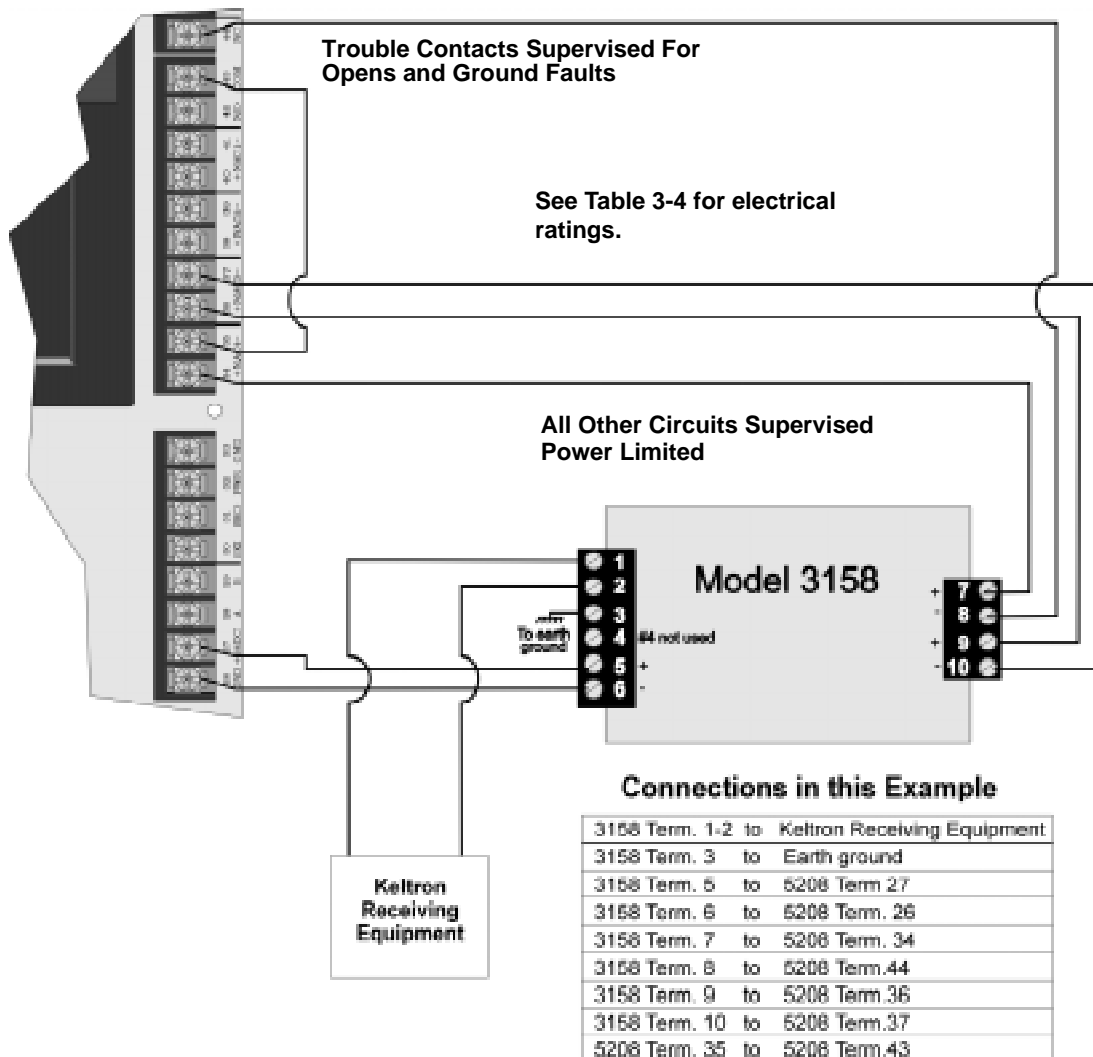

Figure 3-25 Wiring the Keltron 3158 to the SK-5208
1. Wire the 3158 to the SK-5208 as shown in the Figure 3-25.